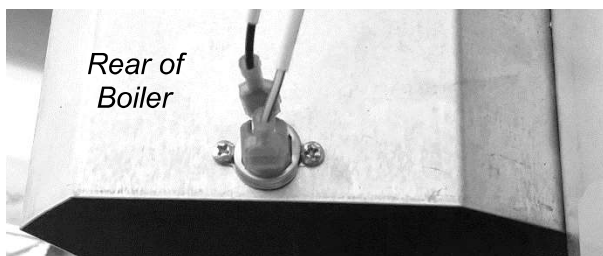

Figure 2: Blocked Vent Switch Location
2. Replace blocked vent switch on rear diverter with 180°F switch provided in altitude kit. See Figure 2.